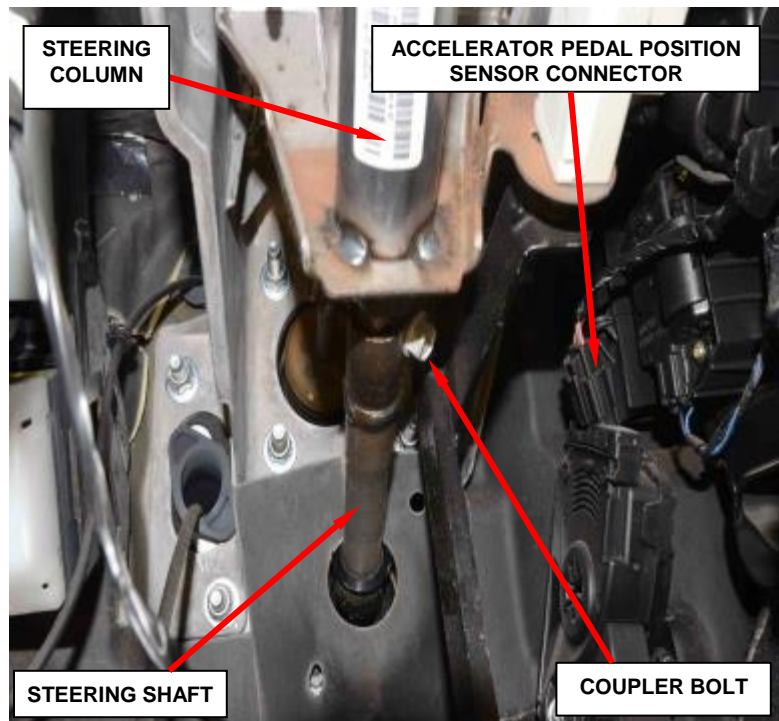

Figure 75 – Steering Shaft Coupler
- a. Disconnect the accelerator position sensor electrical connector (Figure 75).
14. Remove and **discard** the upper steering shaft coupler bolt from the column (Figure 75).